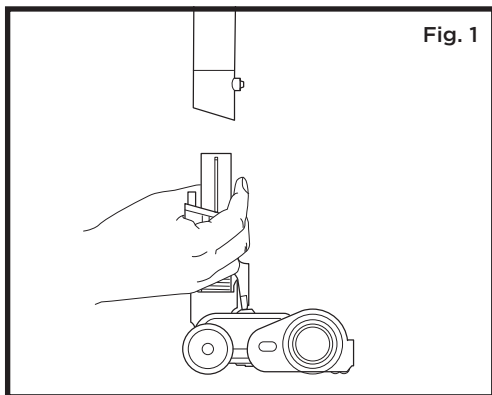

Fig. 1
2. Press the nozzle release button to detach the nozzle from the wand (Fig. 1).